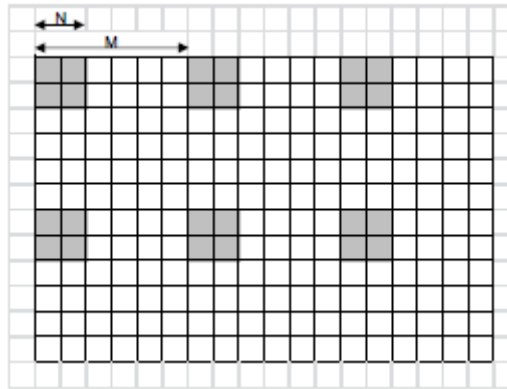

Figure 2.4a: Monochrome sub-sampling example with N = 2 and M = 6.
The Cheetah cameras provide a very flexible subsampling capability. The user defines how many sequential pixels to read out (N) and how many total pixels of the contiguous area (pixels readout + pixels skipped) (M). The sub-sampling decimation factors (N and M) are applied along both rows and columns as shown in the figures 2.4a and 2.4b. The camera will adjust AOI size depending on subsampling factor, averaging factor and the presence of a color filter array on the image sensor.